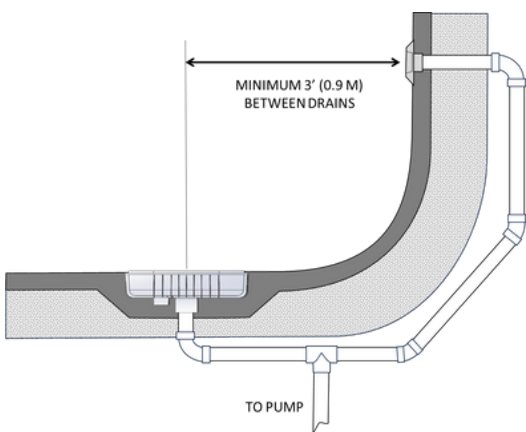

Figure 1
- b. Multiple Suction Fittings:** If you will have more than one suction fitting in the pool, be certain they are a minimum of 3' (0.9 m) apart. (See Figure 1).